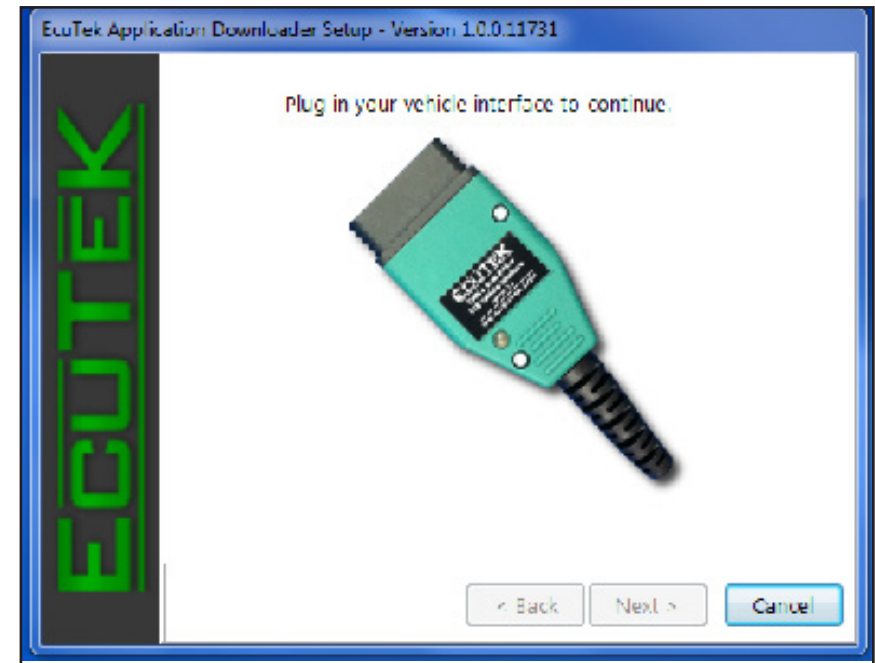

Fig. 1F
- F. Once you have installed the EcuTek application and drivers, you will be prompted to plug in the vehicle interface cable. Select [Next] to continue. See Fig 1F.